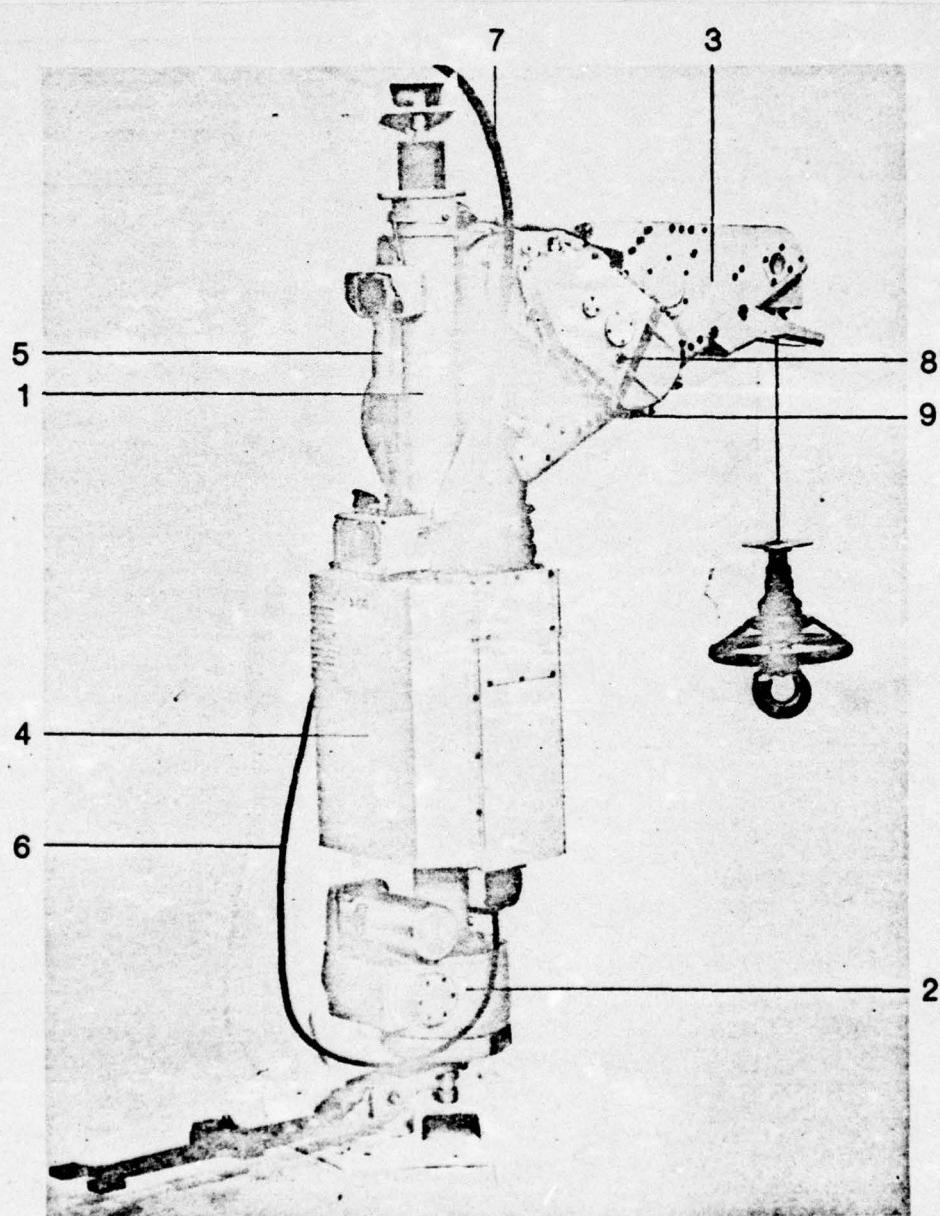

Figure 1.1. Internal rescue hoist for UH-1D Series V22.228.400.
Installation includes a complete equipment (Figure 1.1) consisting of:
The functional groups, items 1-5, shown in Figure 1.1, are identified by nameplates.